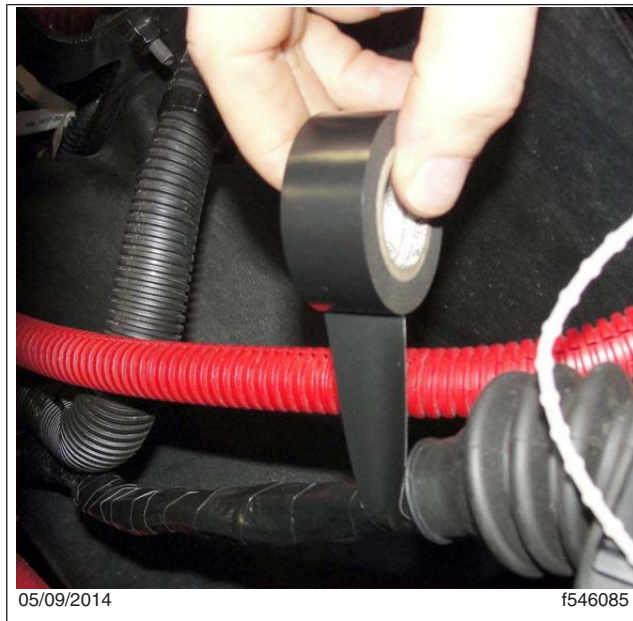

Fig. 1, Wrapping the PDM Harness with Electrical Tape
4. Wrap a 6-inch (15-cm) length of the harness with electrical tape, starting at the base. See Fig. 1.